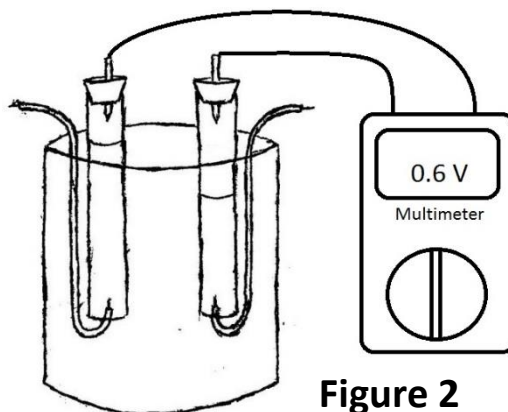

Figure 2
1. Place the voltage meter across the electrodes on the top of the tubes. Platinum works as a catalyst for the reaction; be sure that each electrode is completely covered in gas. Your apparatus should resemble **Figure 2**.